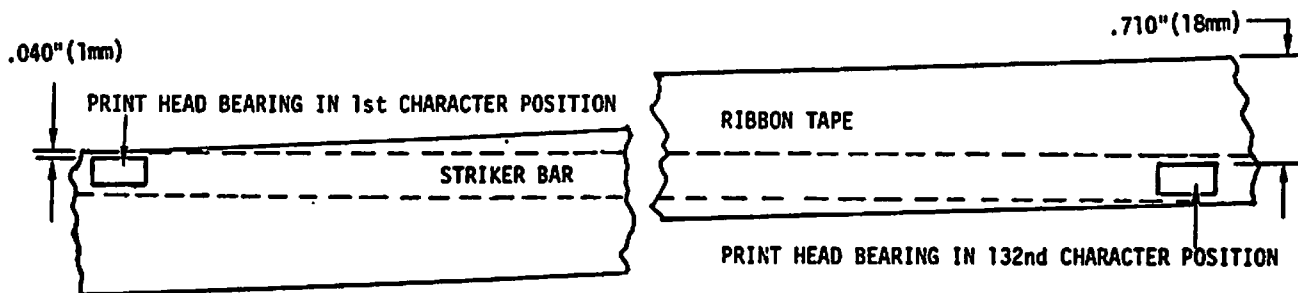

FIGURE 5-26 RIBBON HEIGHT AND ANGLE ADJUSTMENTS
- a) Move the carriage to the first character position (move carriage to photocoupler at first mark on timing fence). In this position there should be a distance of $.040''$ (1 mm) from the top of the print head bearing to the top of the ribbon. (See Figure 5-26.)